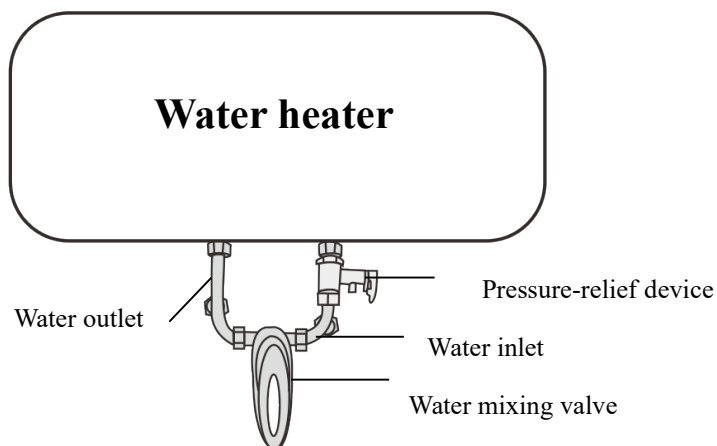

Fig. 4
2. Soft connection: water mixer installation by flexible hose: see Fig. 4